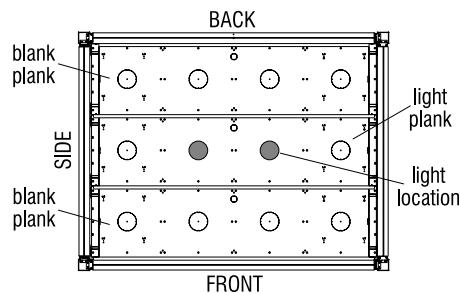
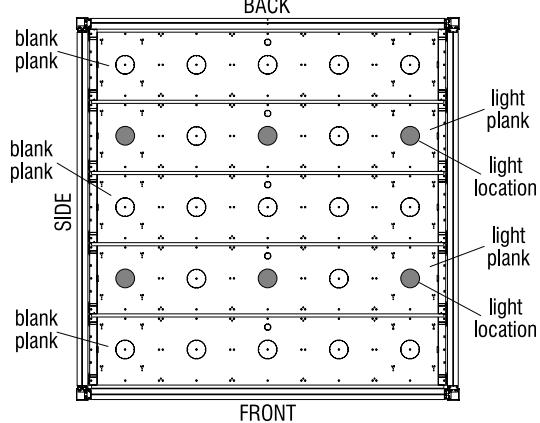

Figure 3 - Single Light Plank
Figure 5 - Double Light Plank w/ Blank Plank
2. Figures 3, 4 & 5 illustrate the different ceiling plank locations based on different size structures being assembled. Please note that the light planks are generally always located in the middle, or near the middle of a room. Figure 5 shows the largest size structure, which has two light planks divided by a blank plank (Figures 3, 4 & 5).